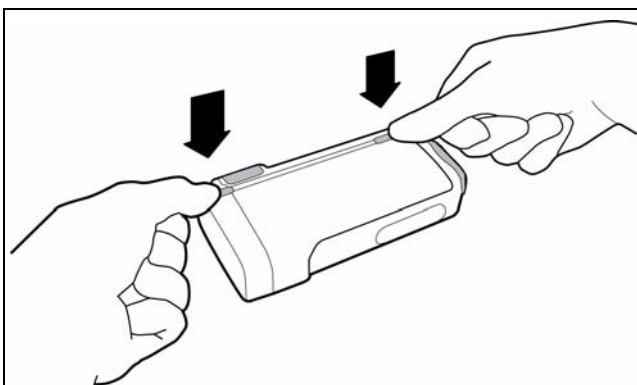

FIGURE 10-10 Securing the Patient Cable
2. Route the cable in the channel on the back of the unit. The channel regions (shown in FIGURE 10-10) should also be pressed firmly to ensure that they are properly placed.